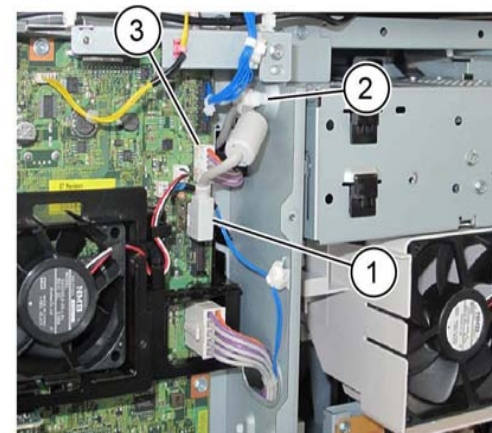

Figure 7 USB cable
8. If the machine has a fax installed, disconnect the connection between the connector and the USB cable, Figure 7:
- Disconnect the USB cable (1).
- Release the USB cable clamp (2).
- Disconnect the connector (3).